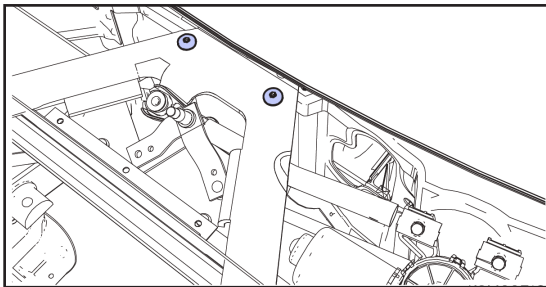

fig.9a
- a. Remove screws (x2) securing plenum chamber brace to bulkhead. Torque - 25 Nm (fig.9a)